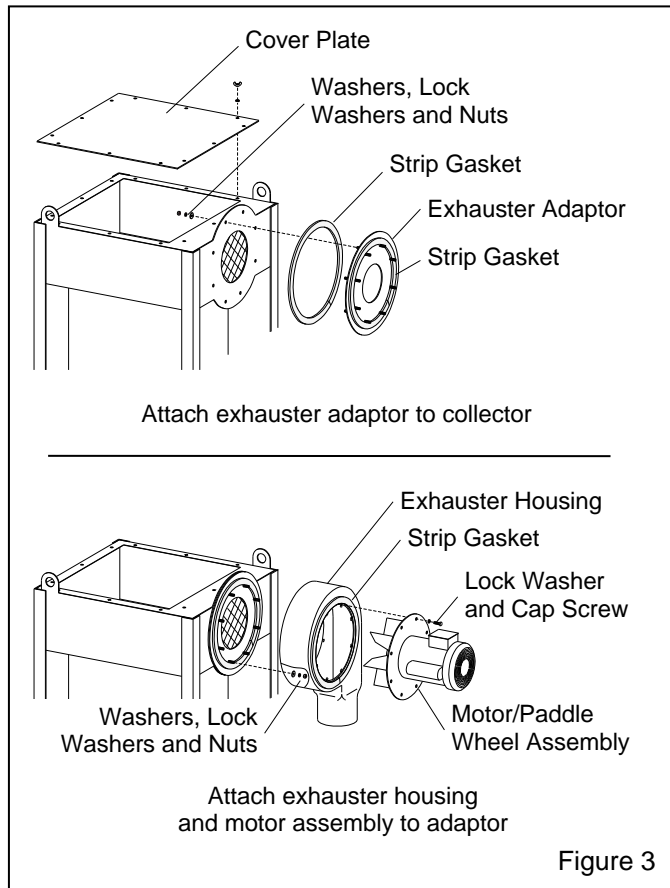

Figure 3
2.3.3 Mounting Exhauster Assembly to CDC Dust Collector, Refer to Figure 3
2.3.3.4 Peel a short section of backing from the strip gasket and apply the gasket around the outside of the studs on both sides of the exhauster adaptor, as shown in the upper section of Figure 3, peeling away the backing as needed. Make sure the ends of the gasket fit tightly together. **NOTE: An adaptor is not used on 900 cfm dust collectors; the exhauster housing bolts directly to the dust collector.**